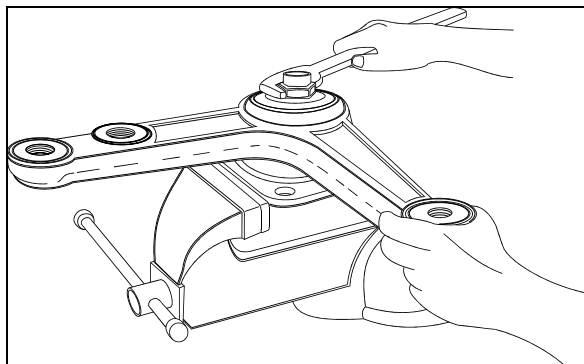

FIGURE 14: BELL CRANK
3. Install bell crank or idler arm onto its mounting spindle, while holding the bell crank or idler arm, slide on the bearing assembly, thrust washer and secure using nut. (Fig. 14).